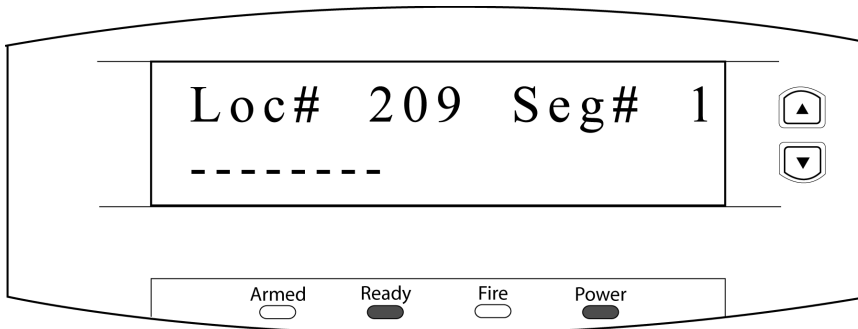

Figure 8: Alarm Panel - Location 209
1. Enter the location for Programming the NX-8E Home Automation Protocol, which is **2 0 9**, followed by the **#** key (or following Location #208, select the  key). A visible number indicates that particular option has been turned on. A dash indicates the option is turned OFF. To toggle between OFF and on, select the corresponding number key on the alarm control keypad. For example, if the number 4 was showing (indicating the option is on), select the **4** key to turn it OFF. To toggle it back on, select the **4** key again. For this location, all options must be turned OFF. Once completed, the LCD should look similar to Figure 8).